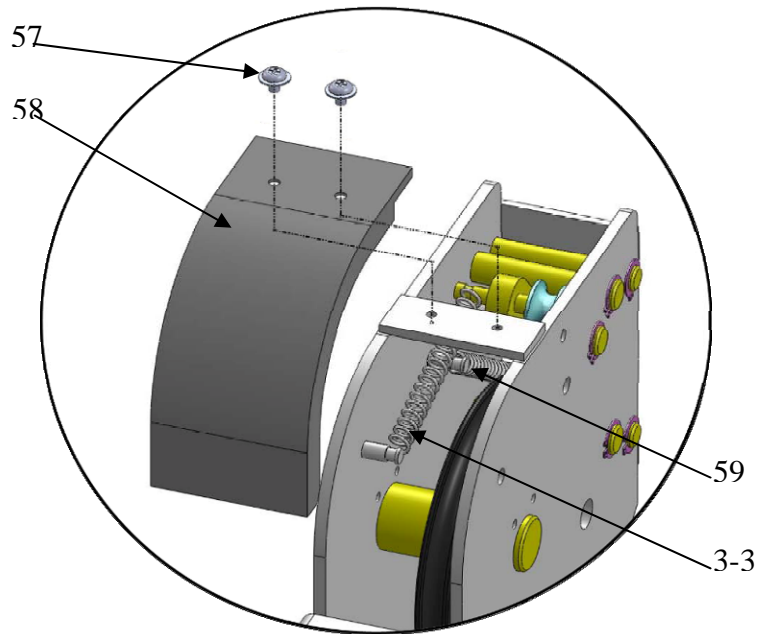

Fig. 24
L. Install spring and safety cover on the cross beams (See Fig. 24).